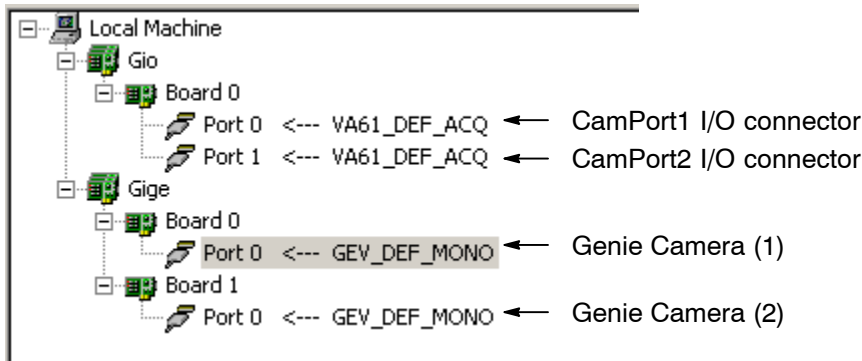

Figure 44. I/O Ports and 2 Cameras in VA-Genie Setup
On the GEVA there are two “Gio” ports for I/O to the Camera and Power connectors, and one or more “Gige” ports for the Cameras connected, shown in the left panel (see Figure 44). If you have more Genie cameras connected through the network, or through GigE switches, there will be more “Gige” ports, one for each camera. If you have a DCI-100 connected to the serial port, the Digital I/O will also appear.
2. If you have cameras connected directly to the Camera ports on the GEVA, the IP Address should sort them correctly. Notice the order of the "Gige" ports in the left panel of the VA-Genie Setup display (Figure 44). If the order is not correct, you need to create a custom configuration. (If you previously created a custom configuration file, you should repeat the process, and overwrite the older file.) You can edit the file in Wordpad, or save a new file from the Camera Configurator.